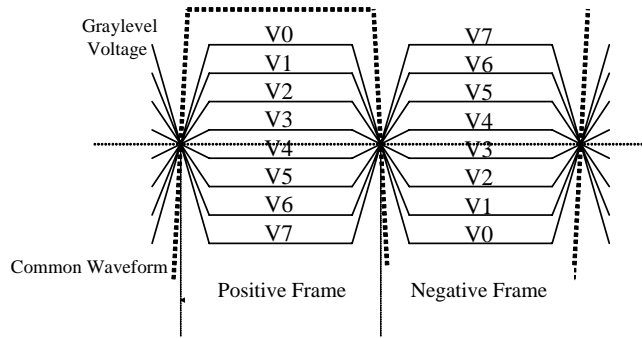

Figure 3-5 Gray Scale Level
- Figure 3-5 shows the ideal Vsource level (V0-V7) at different gray scale voltage in the positive and negative frame with AC Vcom.